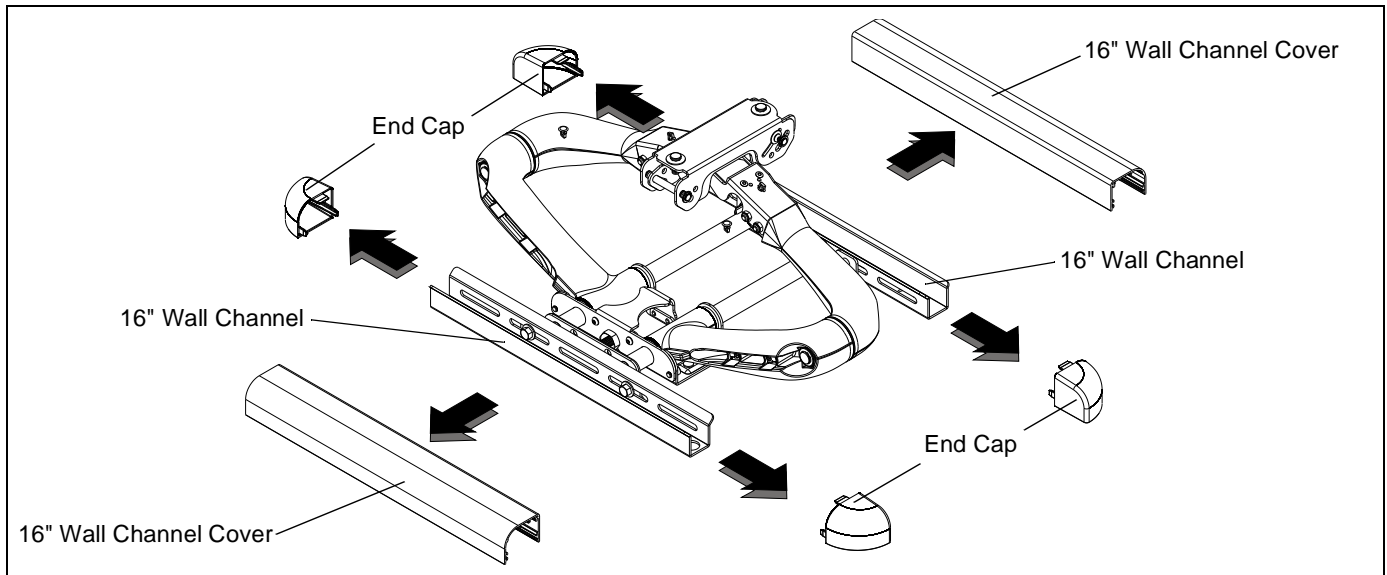

Figure 2: 16" Channel Cover and End Cap Removal (faceplate removed for clarity)
2. Firmly grasp four end caps and pull outward, away from mount. (See Figure 2)
3. Slide wall channel cover and pull outward, away from mount. (See Figure 2)